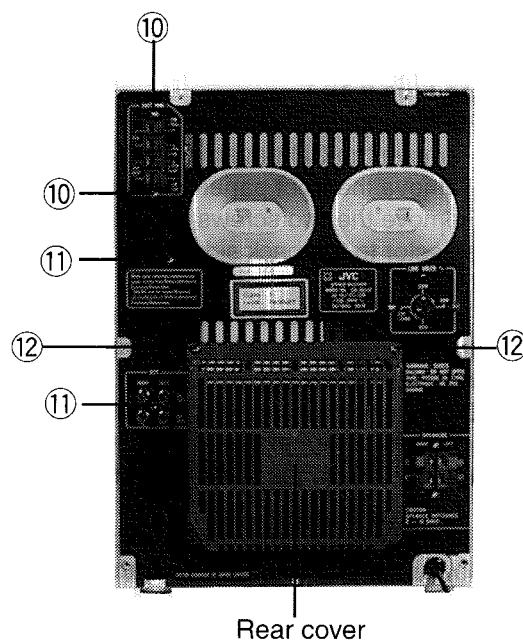

Fig. 11
■ Removal of the Tuner and Line Amplifier Boards (See Figs 11, 12)
4. Remove the two screws ⑩ fastening the tuner board to the back side of the main unit. (See Fig. 11)
5. Remove the two screws ⑪ fastening the line amplifier board to the back side of the main unit. (See Fig. 11)
■ Removal of the Power Amplifier and other Boards (See Figs 11~14)
6. Remove the two screws ⑫ fastening the rear cover to the back side of the main unit. (See Fig. 11)